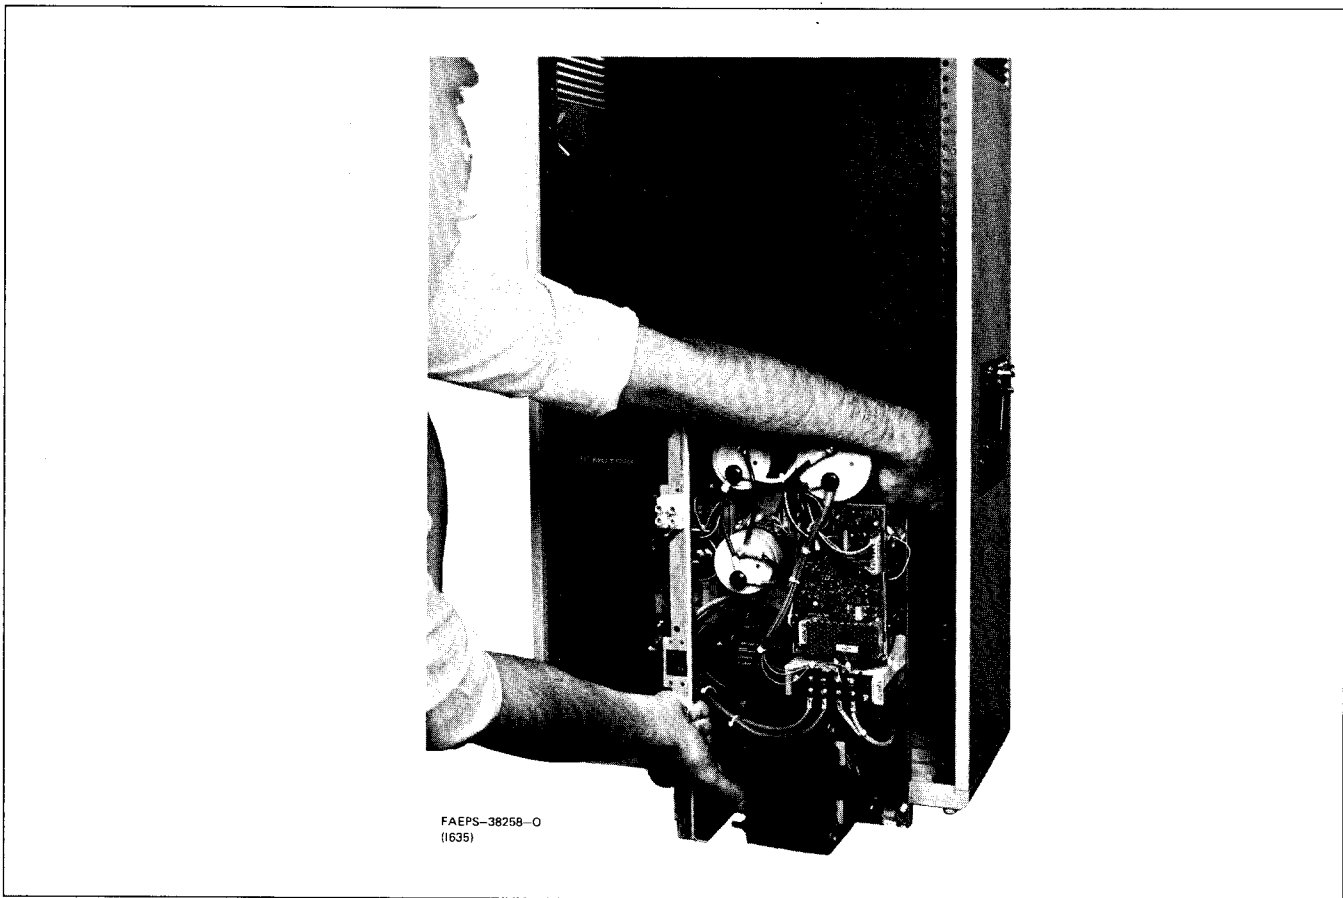

Figure 5. Power Supply Removed From Cabinet
Step 6. Slide the power supply toward you. Slightly tilt the chassis toward you and reach the left hand over the top to balance the chassis on the cabinet rails. Press the chassis firmly against the rails or the chassis will suddenly slide out of the cabinet. See Figure 5.